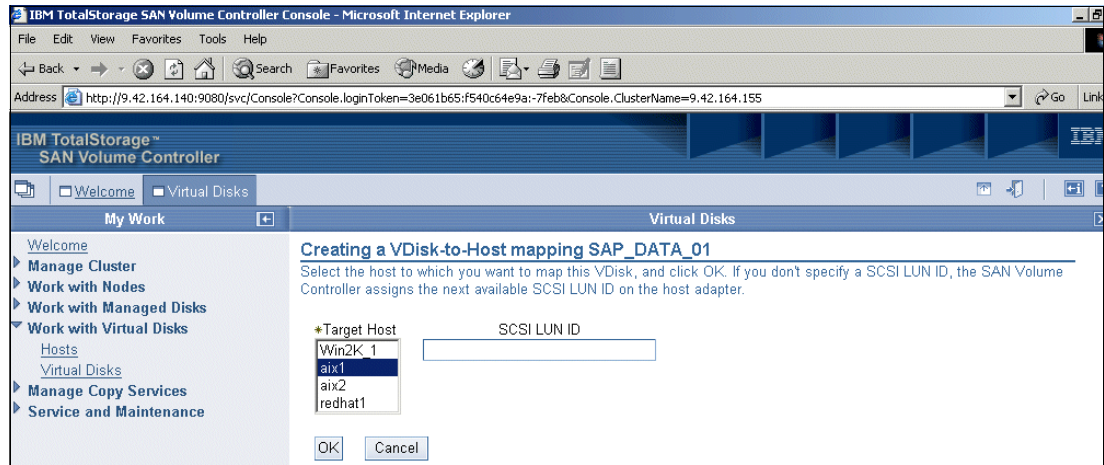

Figure 9-71 Mapping a vDisk to a host
2. On the Creating a vDisk-to-Host mapping *vDiskname* panel (where *vDiskname* is the vDisk you selected in the previous step), from the Target Host list, select the desired host. Optionally specify a SCSI LUN ID. The default is to increment based on what is already assigned to the host. Click **OK**. See Figure 9-71.